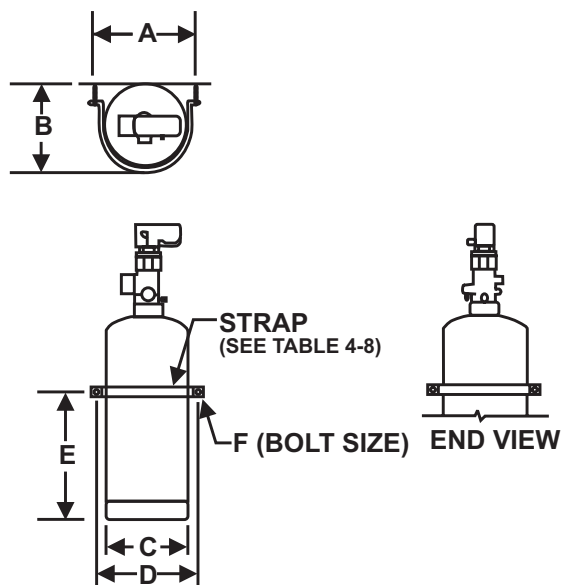

Figure 4-12. Single Cylinder Installation, Vertical Mounting
1. Position FM-200 cylinder in designated location and secure in place with cylinder strap and attaching hardware (see Figure 4-12 and Tables 4-10, 4-11 and 4-12). Orient cylinder with valve outlet angled toward system piping.